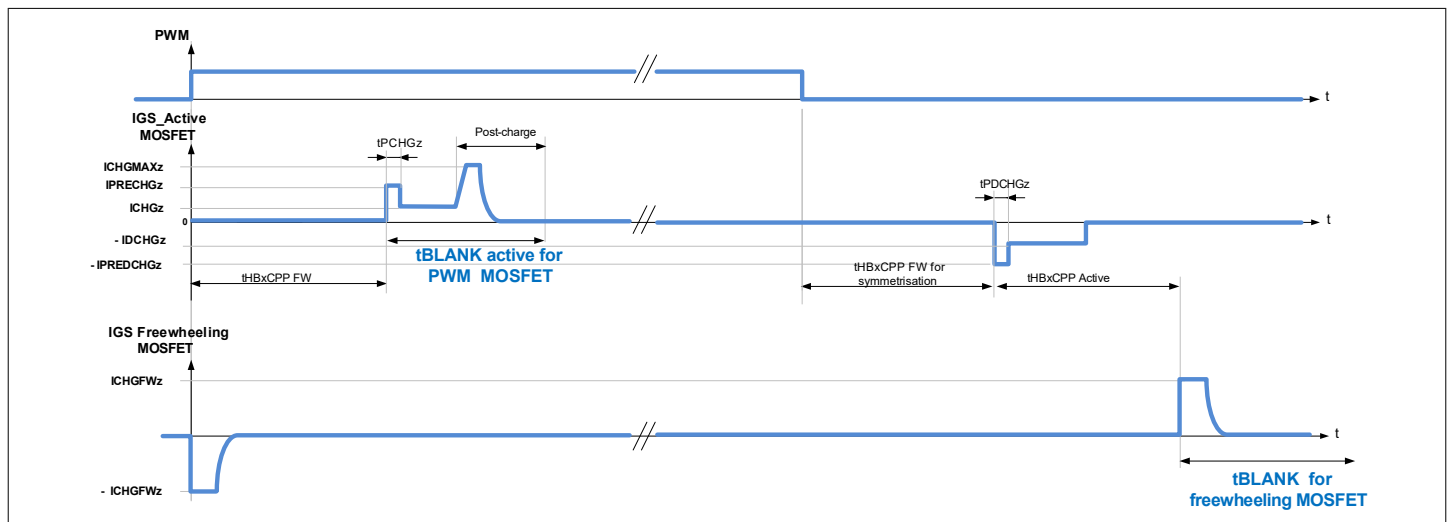
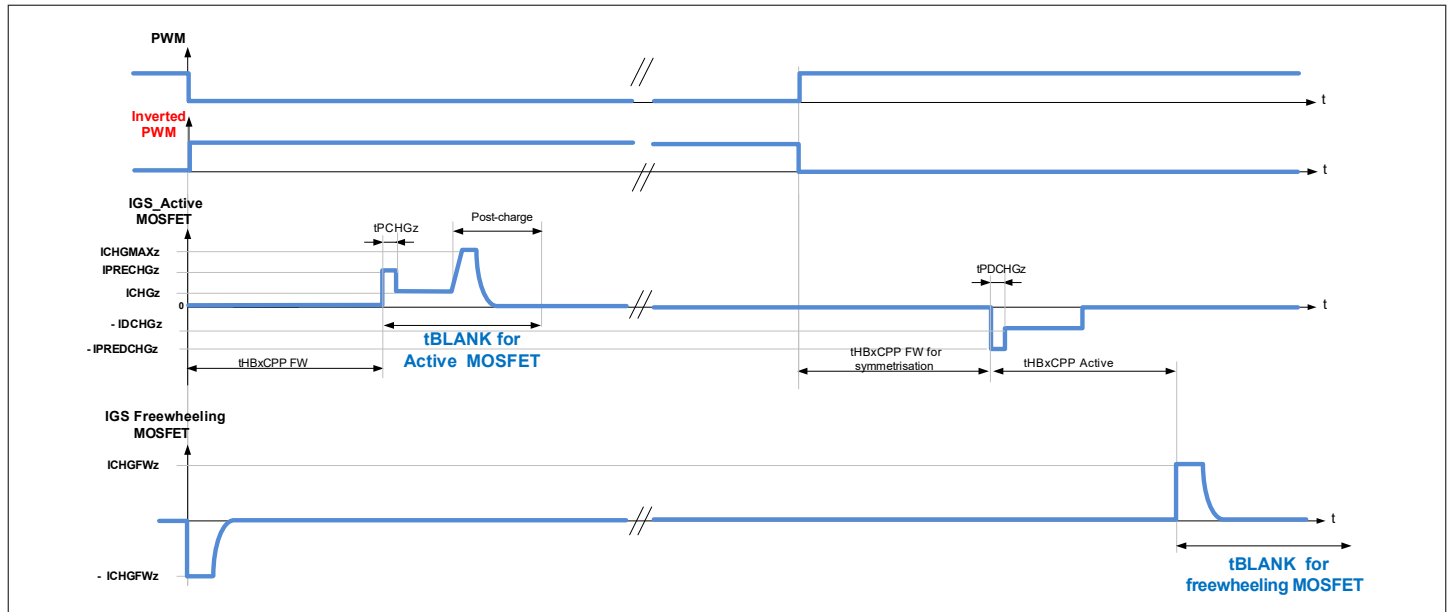

Figure 34 Blank time for half-bridges in PWM operation, detection of generator mode enabled (EN_GEN_CHECK = 1), motor operating as load
Figure 35 Blank time for half-bridges in PWM operation, detection of generator mode enabled (EN_GEN_CHECK = 1), motor operating as generator
- The blank time of the Active MOSFET starts at the expiration of the cross-current protection time of the FW MOSFET ($t_{HBxCCP\ FW}$). Refer to Figure 34 and Figure 35.
- The blank time of the FW MOSFET starts after expiration of the cross-current protection time at turn-off of the Active MOSFET ($t_{HBxCCP\ Active}$). Refer to Figure 34 and Figure 35.